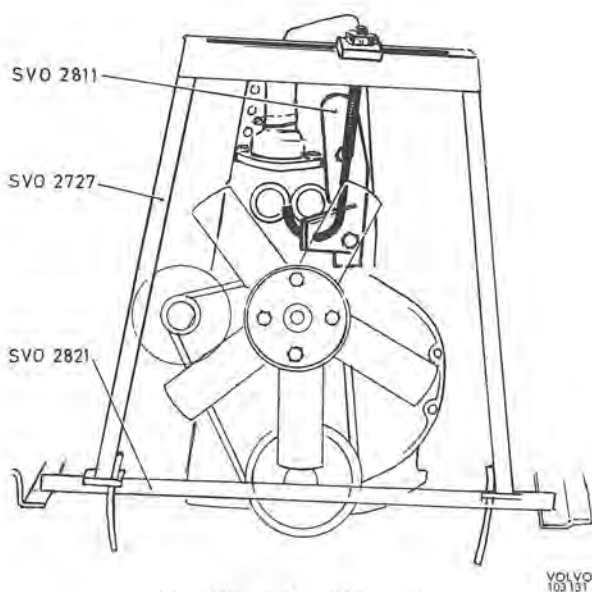

Fig. 6-14. Tool for lifting engine
1. Install the lifting plate SVO 2811 on the engine and also lifting tool SVO 2727 together with the extension rod SVO 2821, see Fig. 6-14. Raise the engine until the weight is taken off the front engine mounting. Temporarily block the vent-hole in the brake fluid container cover to reduce leakage. Remove the hub caps and loosen the nuts for the front wheels a couple of turns.